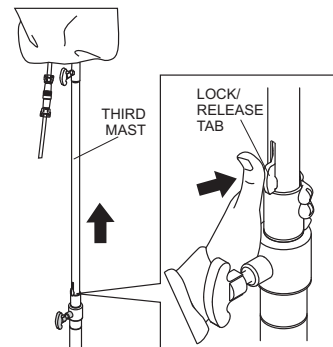

Figure 26. Lowering Third Mast
2. Push the lock/release tab on the third mast to release it and lower third mast. See Figure 26.